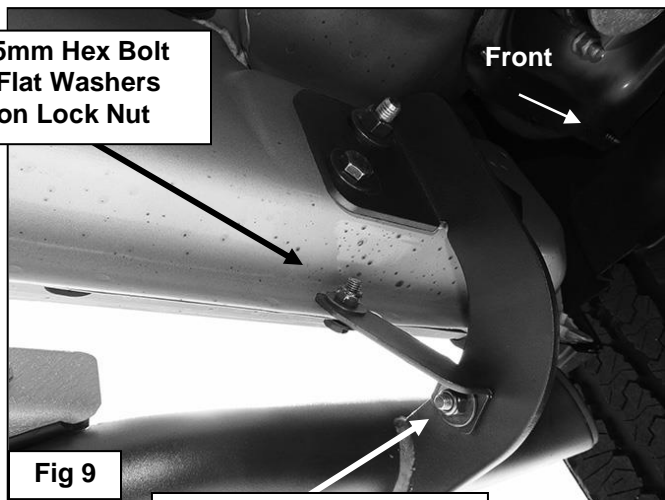

Fig 9
- d) Bolt each Support Bracket to the back of the pinch weld with (1) 8mm Hex Bolt, (2) 8mm Flat Washers and (1) 8mm Nylon Lock Nut, **(Figure 9)**. Skip to **Step 8**.
- b) Bolt each Support Bracket to the back of the pinch weld with (1) 8mm Hex Bolt, (2) 8mm Flat Washers and (1) 8mm Nylon Lock Nut, **(Figure 9)**. Do not tighten hardware at this time.